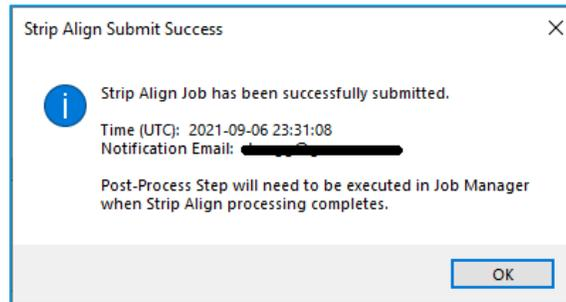

Figure 104 - Strip Align Job Submission Confirmation
25. A successfully submitted job notification will appear confirming the job submission (Figure 104).